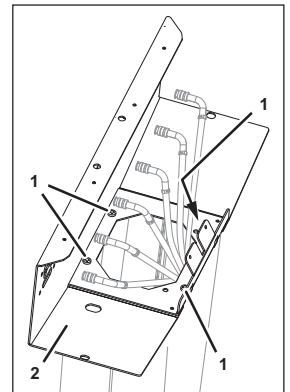

Fig. 41
- Remove the fastening bolts (Fig. 41/1) from the dispensing valve support (Fig. 41/2).
- Attach the dispensing valve support (Fig. 41/2) using the fastening bolts (Fig. 41/1) of the dispensing valve support.